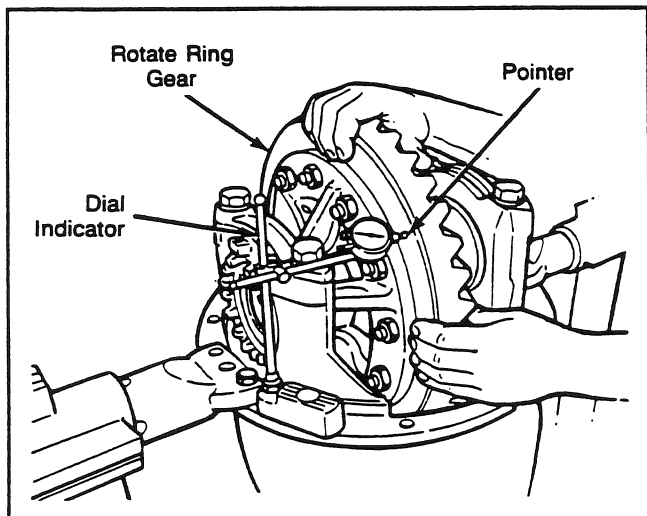

Fig. 71
1. Install a dial indicator on the carrier mounting flange. Adjust the dial indicator plunger to touch the back surface of the ring gear (see Fig. 71). Adjust the indicator needle to zero (0).